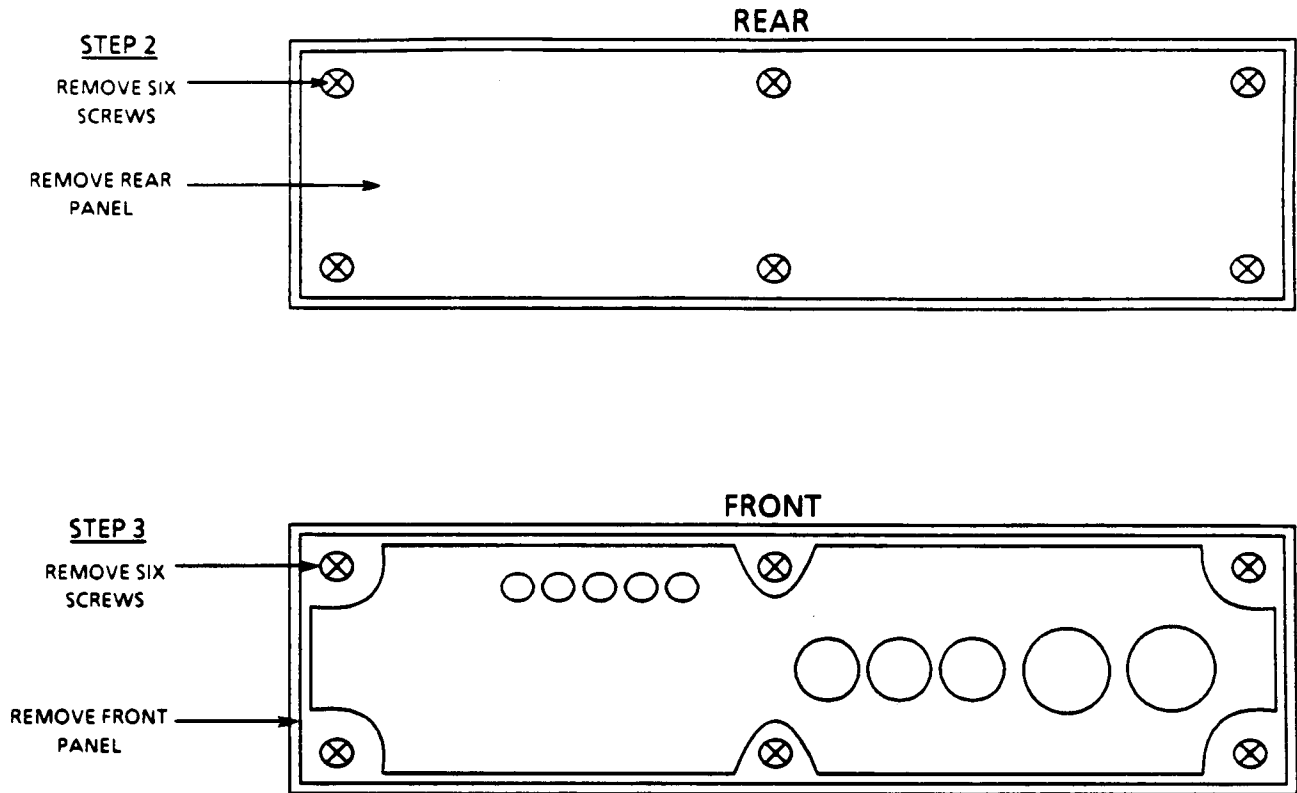

Figure C-2. Removing the Miniceptor's Front and Rear Panels
2. Referring to **Figure C-2**, remove six screws to detach the rear panel of the Miniceptor.